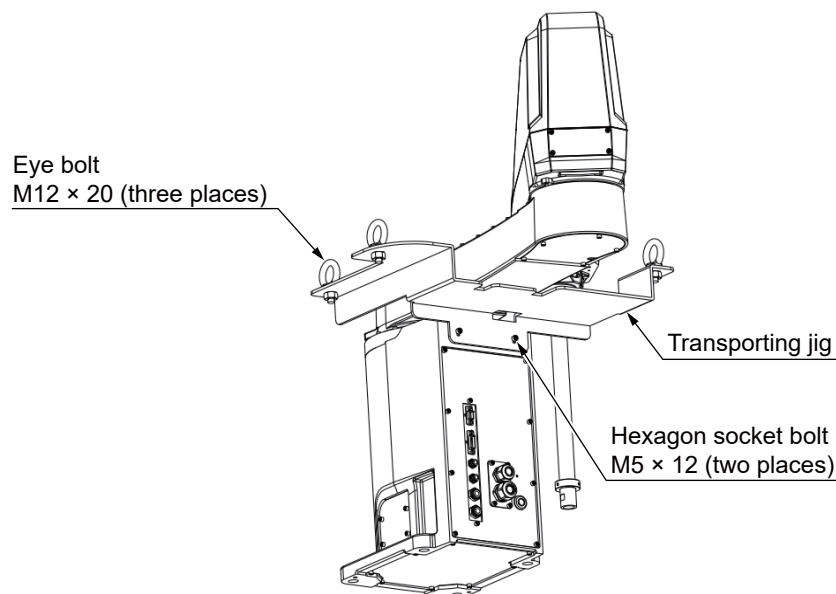

Fig.2-4:Installing the transporting jig (RH-20CRH)
1) Attach the transporting jig as indicated in Fig. 2-4.